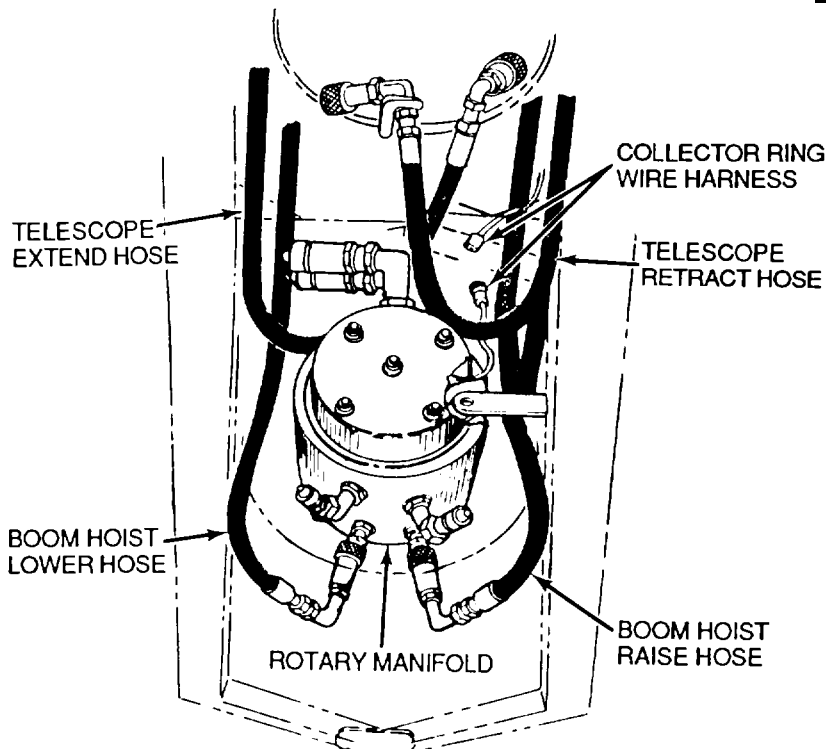

Figure 5-19 Rotary Manifold Hoses
- a. Disconnect two boom hoist cylinder hoses (Figure 5-19) from manifold. Access is through cutout in front of upperstructure.